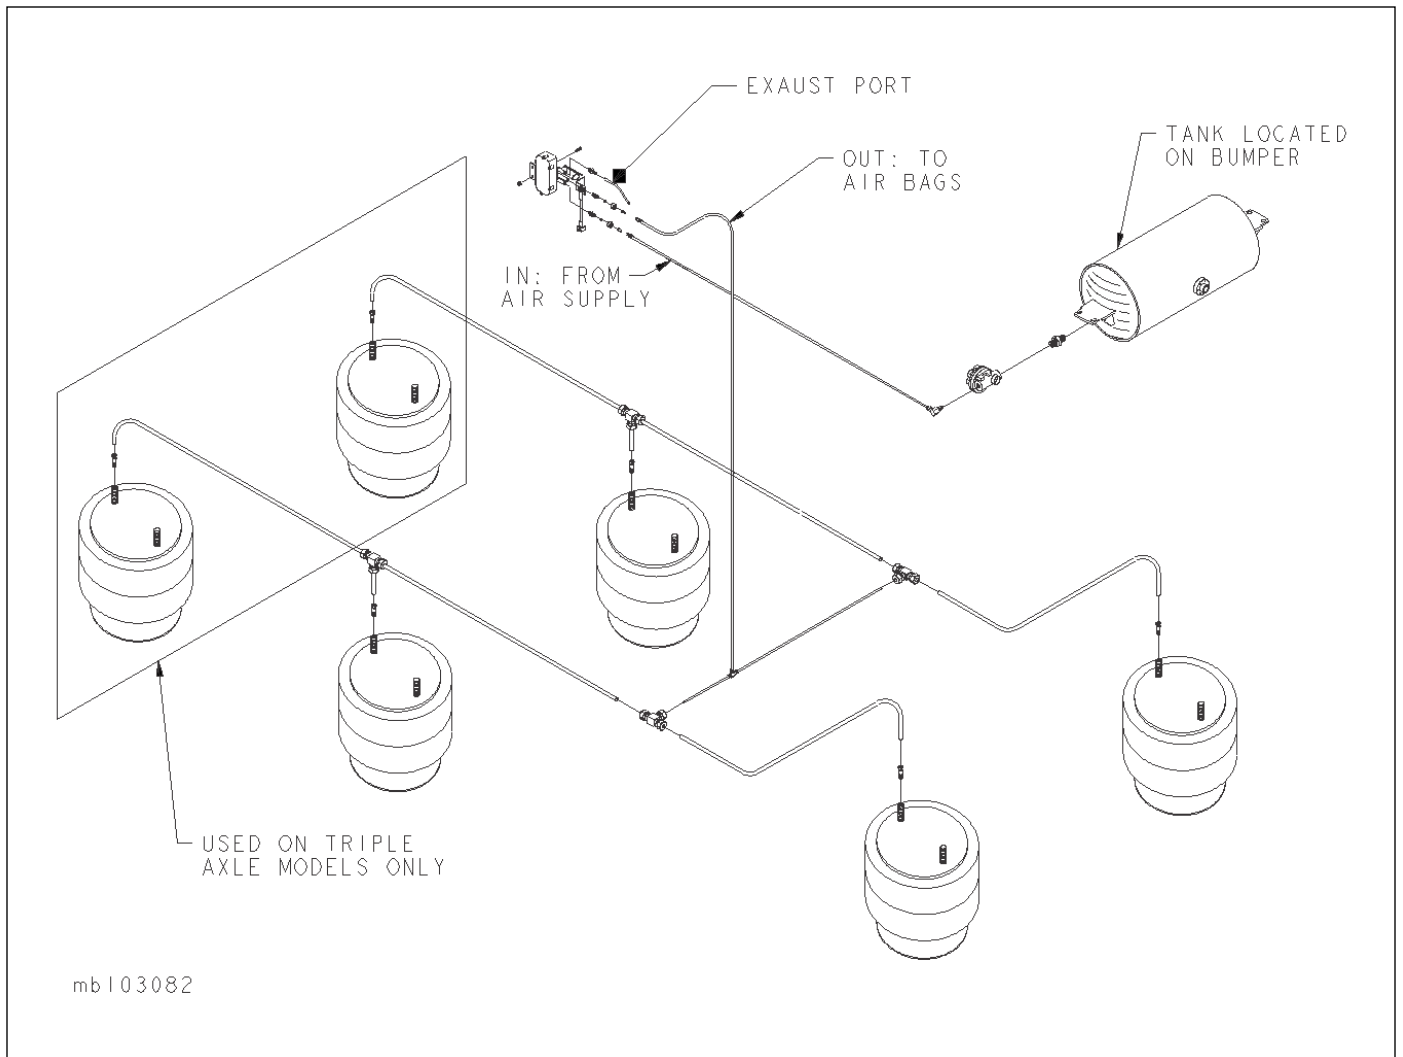

Figure 4-5: Air Ride Suspension System
1. **See Figure 4-5** for Axle Air Ride Suspension drawings.